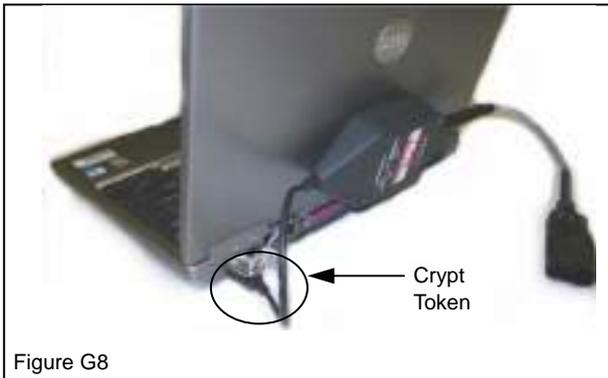

Figure G8
1. Install the Crypt Token in an available USB port in the computer (Figure G8).